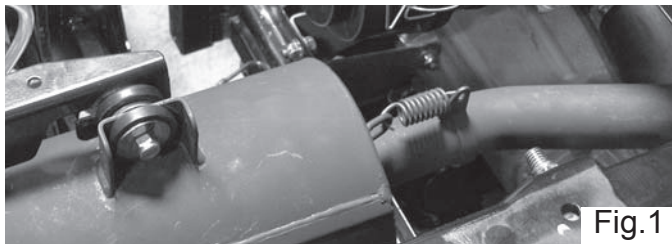

Fig.1
3. Using a spring puller tool, remove the two (2) springs connecting the muffler to the midpipe (fig.1).